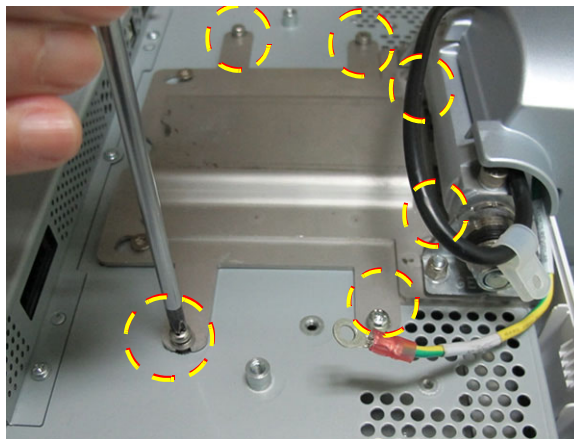

Figure 8-46 Removing the Securing Screws from the Bracket
- 5.) Remove the 6 screws that fasten the monitor to the securing bracket - Figure 8-46.
- 6.) Return the 6 screws to the securing bracket and fasten tightly - Figure 8-46.